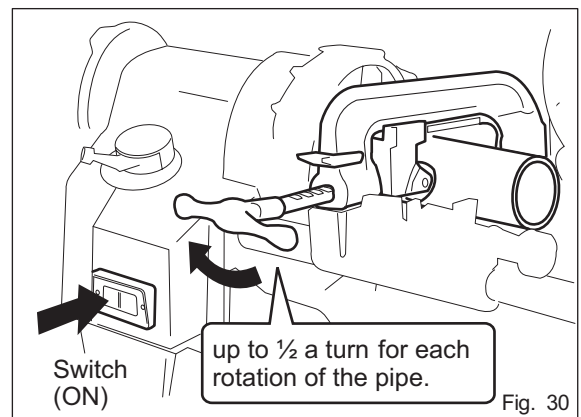

Fig. 30
6. Switch the machine on and turn the cutter handle up to $\frac{1}{2}$ a turn for each rotation of the pipe. (Fig. 30)